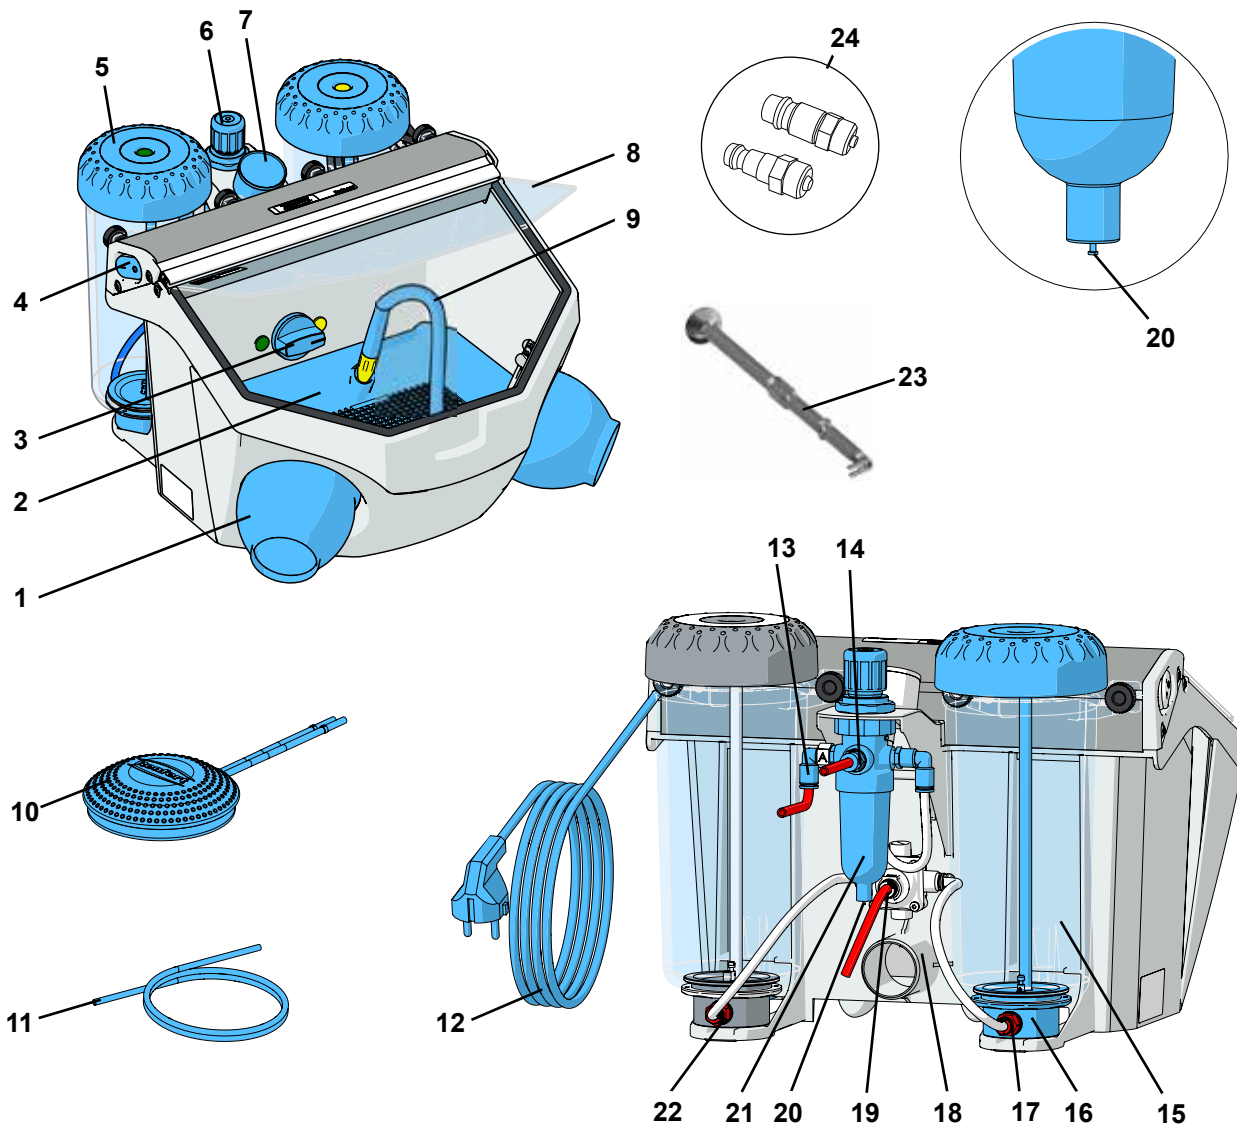

Fig. 1
- ⇒ Unroll the power cable (12, Fig. 1).
- ⇒ Connect the suction tube from the extraction unit to the suction pipe (18).